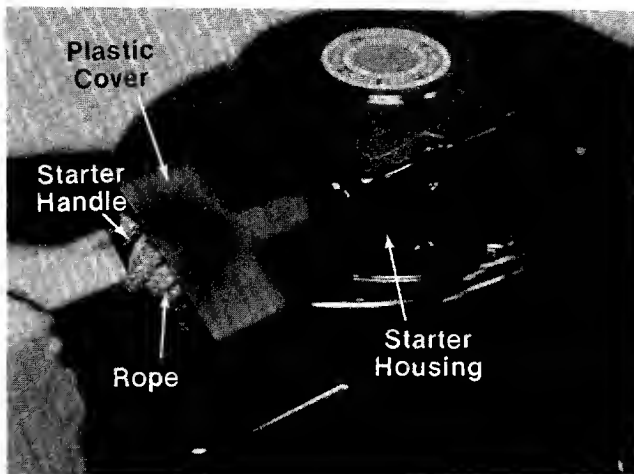

FIGURE 11.
19. The starter rope and handle may be secured with a plastic cover for shipping purposes. Remove the plastic cover and discard. See figure 11.